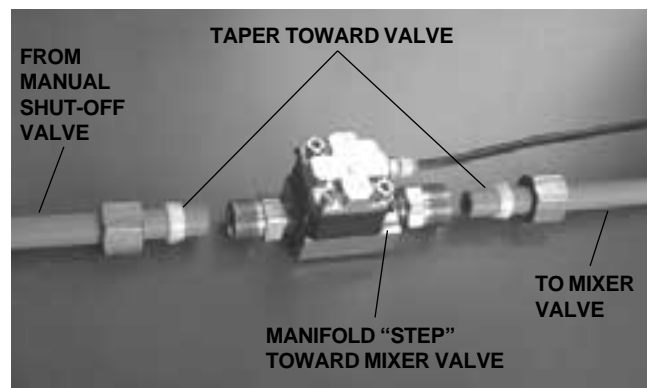

FIGURE 33
4. Remove the nuts from each of the air-actuated valves. Discard the brass compression sleeves if present, and install plastic compression sleeves. Slide the nuts and new plastic compression sleeves onto the newly cut gray tubing. Be sure the tapered end of the compression sleeve is pointed toward the valve. Install the two valves, with the flat manifold "step" toward the mixer valve, then tighten the nuts (see Figure 33).